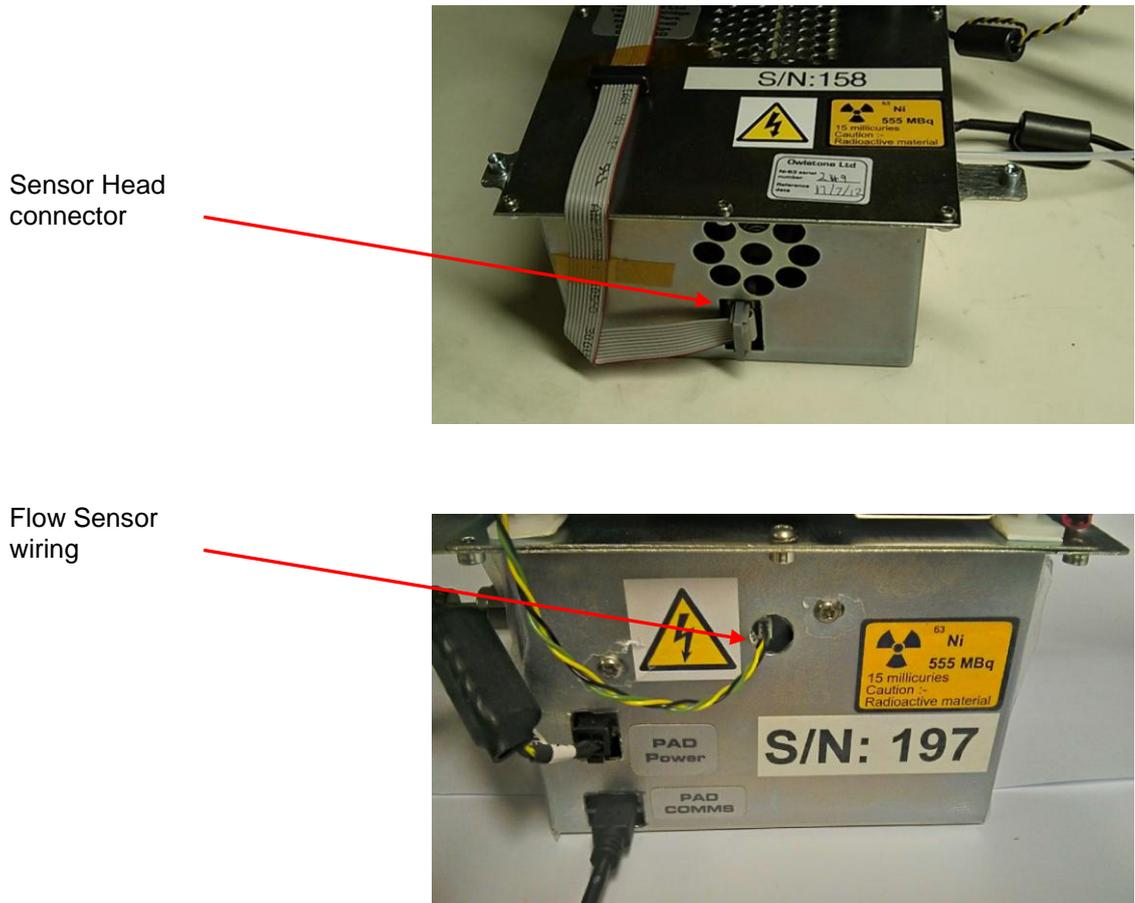

Figure 4. Detail of sensor head, flow sensor connectors
- Check that all other cables are seated correctly, as shown in Figure 4.